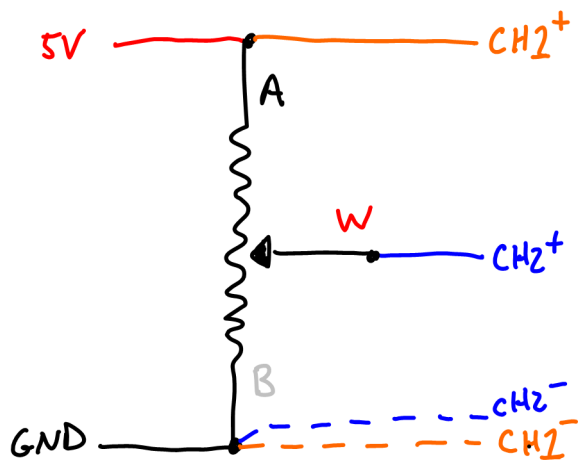

Figure 6: Connections for the potentiometer, with the terminals labelled in the same convention as on your workstation.
1. Insert the leads from the  $10k\Omega$  potentiometer on your workstation into the breadboard and connect the oscilloscope as shown in Figure 6. For this and many of the following labs, your life will be *much* easier if you plug the oscilloscope leads into a central location and then use jumper wires to “probe” your circuit. It's kind of a pain to keep the oscilloscope wires connected otherwise, and it's much quicker to just move a jumper wire around.